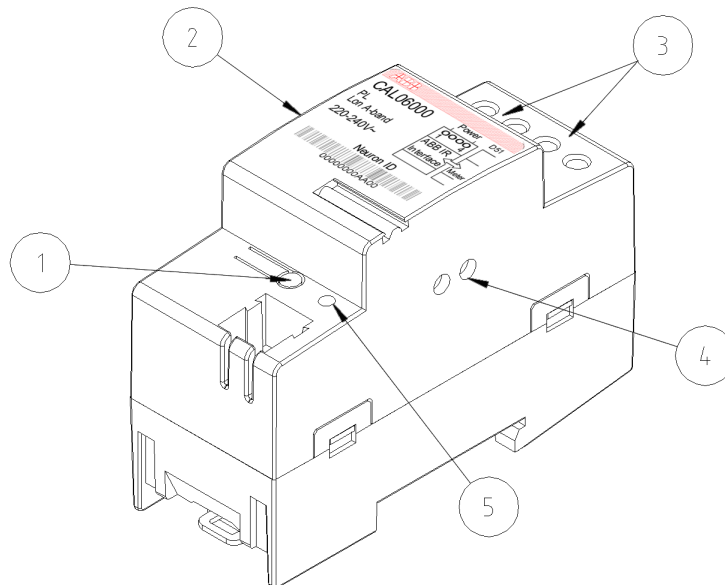

Figure 1: SCA parts.
The Service LED (2) in figure 1. indicates the state of the communication adapter. The chart below describes the state of the communication adapter and how the Service LED indicates this.